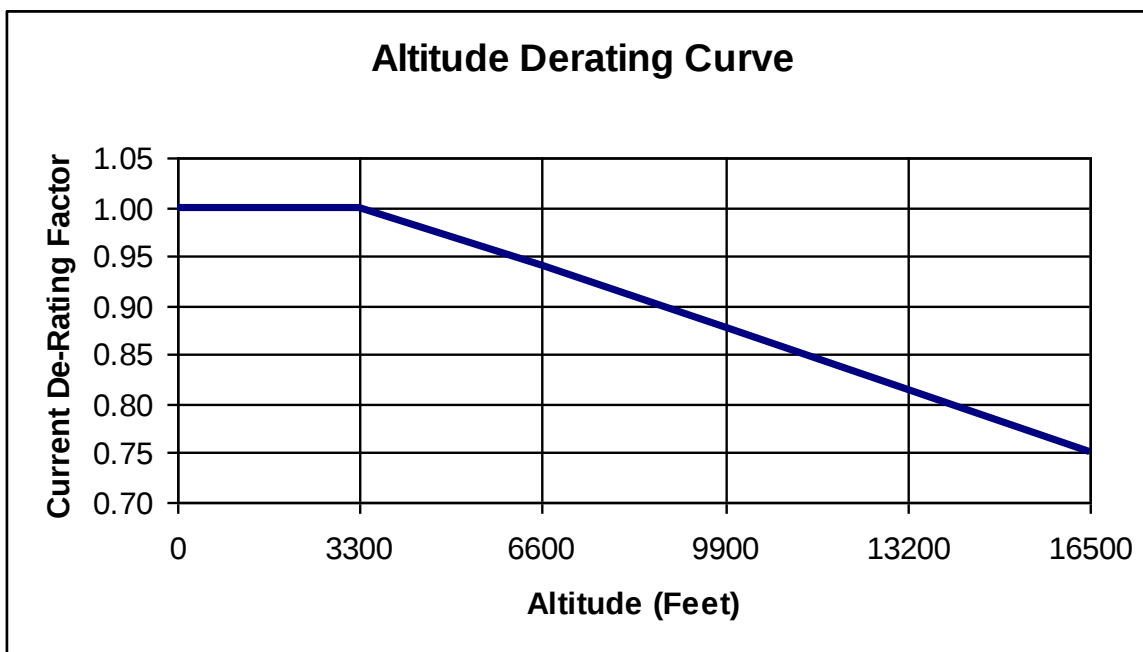

Figure 3-1: Altitude Derating Curve
- ☐ **Altitude:** 3,300 feet above sea level without derating. See Figure 3-1: Altitude Derating Curve (p7) for derating information.